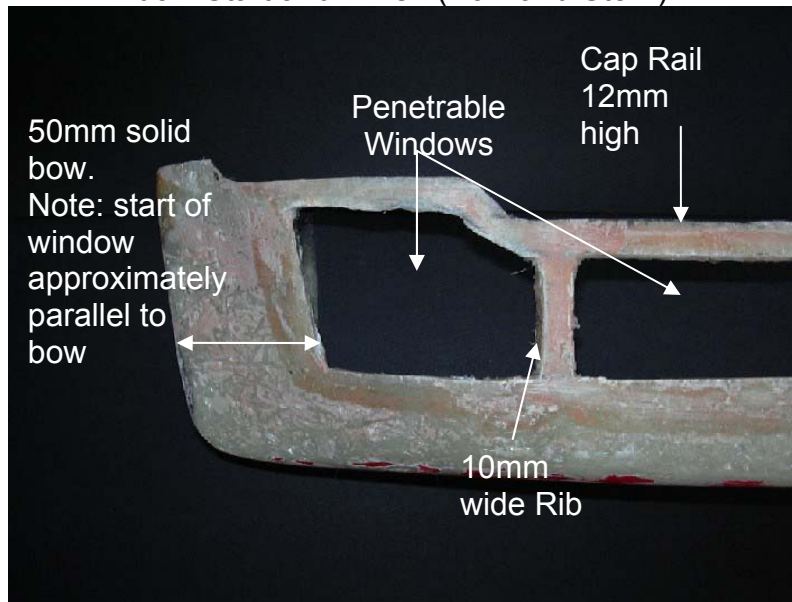

Figure 8
1.12.2.1. The hull may be impenetrable up to, but not more than, 50mm inwards from the ends of the hull (see Figure 8 for bow example). The first rib distance from the impenetrable end is to be measured at the waterline.
- 1.12.2.2. The trailing edge of the impenetrable bow should be approximately parallel to the ship's stem (the side profile of the bow - see Figure 8).